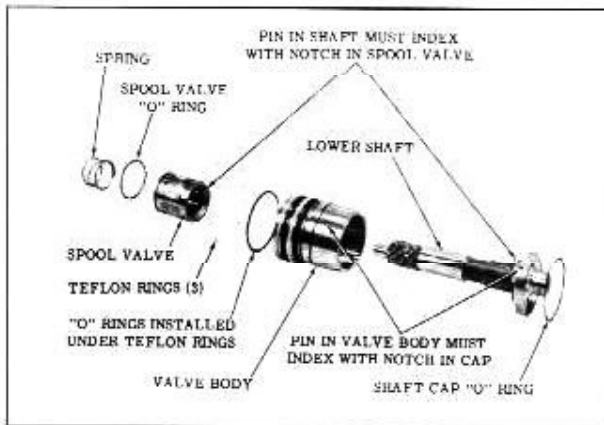

Fig. 4-86 Valve and Shaft Assembly
3. Assemble the lower shaft assembly in the valve body so the notch in the lower shaft cap engages with the pin in the valve body and is seated. (Fig. 4-86)
(Notch in spool towards the valve body). Rotate the spool valve while pushing valve into valve body to align notch in spool with the pin in the lower shaft. (Fig. 4-86)